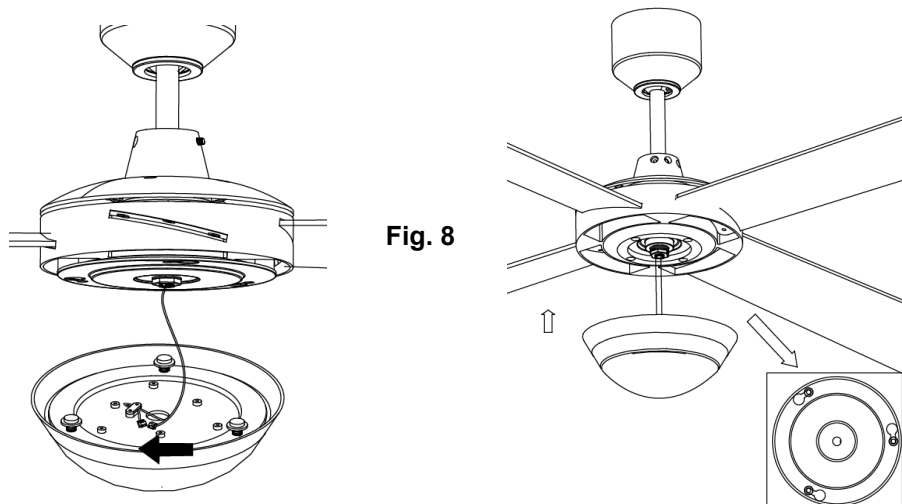

Fig. 8
- Attach the LED light kit to the lamp base and connect wires to the LED light kit via the quick connectors. Insert the housing assembly screws into the larger ends of the key hole slots and turn the LED light kit body clockwise until the housing assembly screws are firmly situated in the narrow ends of the keyhole slots. **Fig. 8**